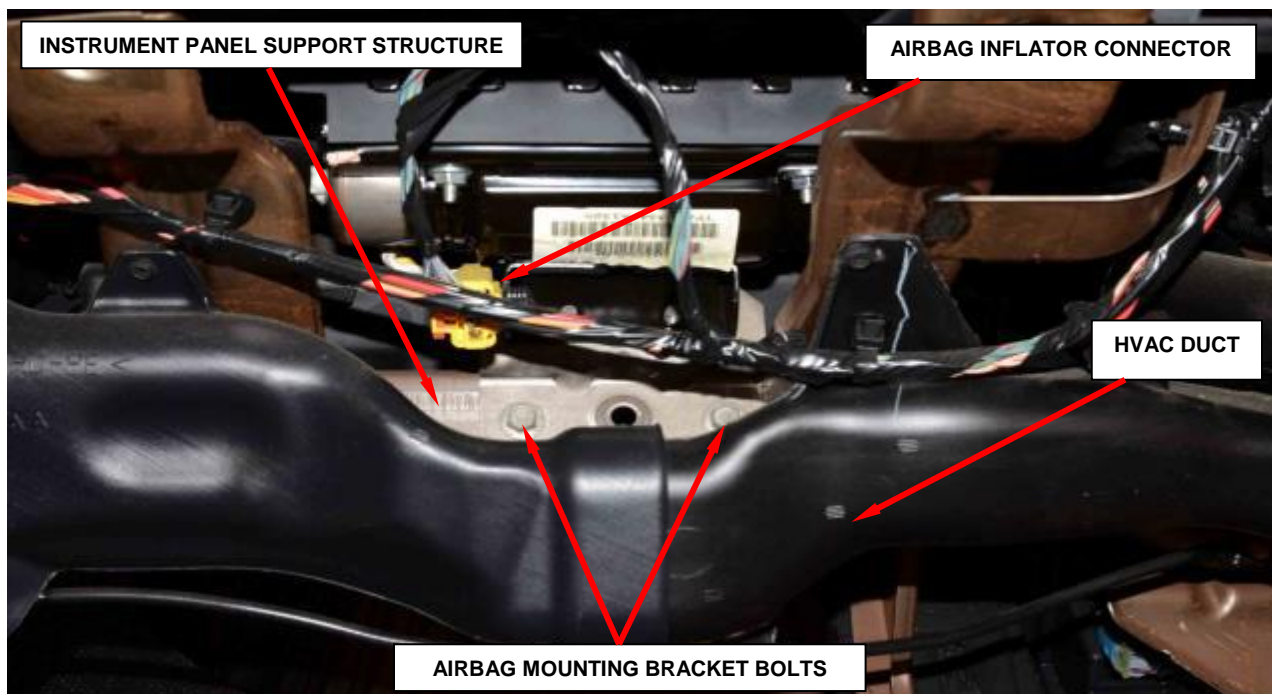

Figure 102 – Instrument Panel Mounting Bracket
33. Remove and save the two bolts that secure the passenger airbag bracket to the instrument panel support structure (Figure 102).
34. Disconnect the instrument panel wire harness connector from the airbag inflator pigtail connector on the right side of the airbag mounting bracket (Figures 102 and 103).